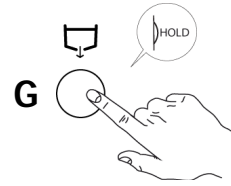

Fig.42
- 2- Hold button "G" drain water for the entire time necessary to drain out completely the water from the tank. (Fig.42)